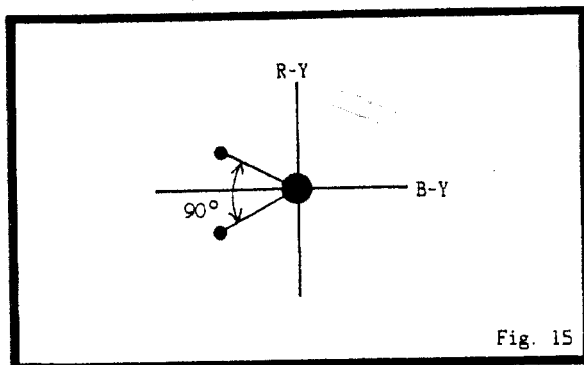

Fig. 15
2. Connect the vectorscope to pin ④ CP4202.
3. Adjust VR8011 for the vectorscope waveform to be as indicated Fig. 15.